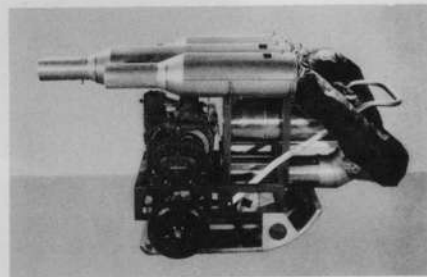

Figure 110 - Type D-1 Portable Ground Heater
a. When operating under freezing conditions, and if available, use type D-1 portable heaters. (See figure 110.) The weather conditions may require preheating of engines and cabins prior to first flight.